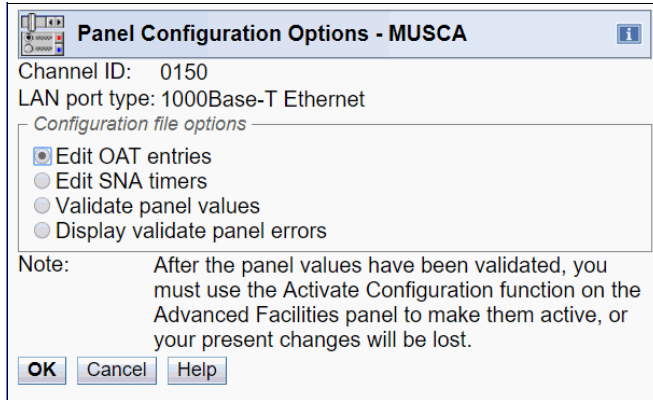

Figure 6-8 OSA/SF on the HMC: Configuration file options
4. The Panel Configuration Options window opens (see Figure 6-8). You can define the following options: